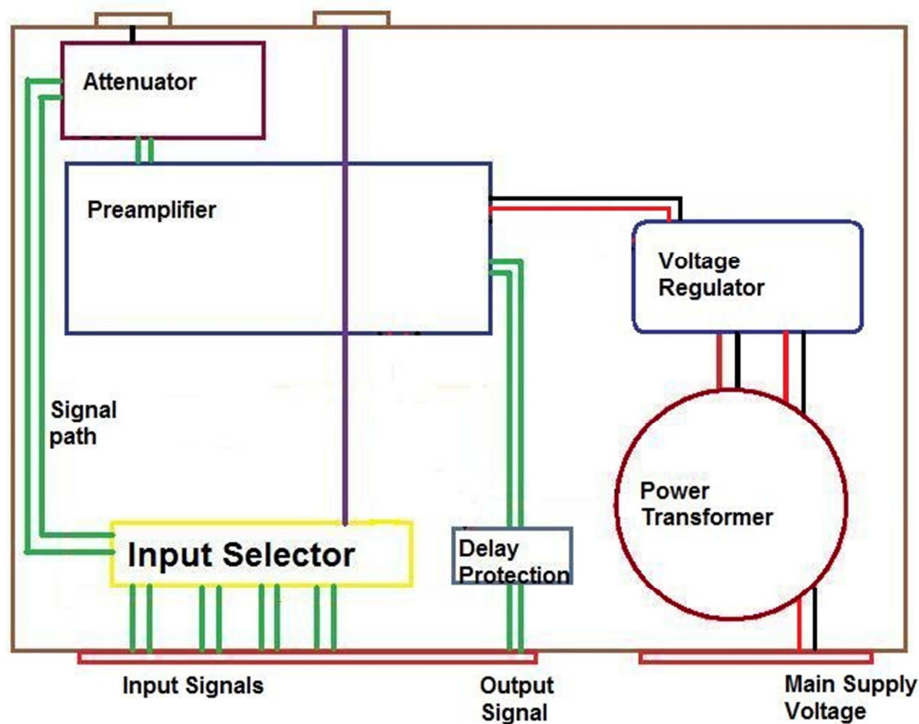

Figure 1. Floorplan of a preamplifier
The basic building blocks or modules for a complete preamplifier include (I) power transformer, (II) voltage regulator, (III) preamplifier, (IV) attenuator (volume control), (V) input selector and (VI) delay protection, where IV, V and VI is optional. The floorplan is illustrated in Figure 1.
5. Connect power supply unit (power transformer plus voltage regulator) to the preamplifier. Measure the voltage again. If no problem occurs, mount all the modules to the chassis according to our recommended floorplan (Figure 1)